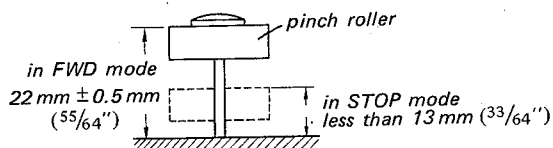

Fig. 8-9 Pinch roller height adjustment
- (7) Confirm that the pinch roller is as shown in Fig. 8-9.